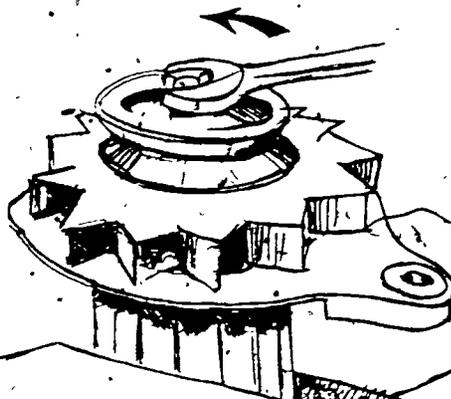

FIGURE 4
5. Place the armature and drive end frame assembly in a vise (Figure 4)